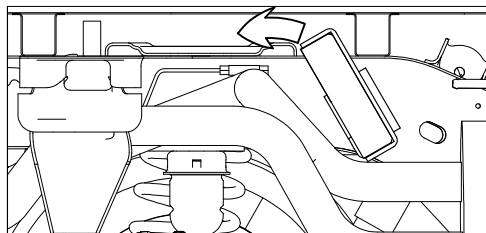

Figure C3. (Cut-away view under bed)
2. **Install the center section.** Once the hitch is clear of exhaust, rotate, and lift it so that the 4" raised area is toward the bottom of the truck bed. Slide the center rearward over the exhaust until the 4" diameter raised portion is in the 4" diameter hole in the truck bed while the 3/8" square hole is centered under the 3/4" diameter hole in the truck bed, see Figures C3 through C5. If available, an overhead lifting device can be attached to the latch pin of the center section at this time to apply upward pressure on the center, holding it in place. Slide the rear cross member forward until it makes contact with the center section. Line the holes in the rear cross member up with the slots in the center. Attach the center to the rear cross member using the two outside slots and middle slot in the center. Thread a 1/2" x 1-1/2" long bolt into each threaded hole in the rear cross member adding a lock washer, and flat washer to each connection. Hand tighten hardware at this time. Do not fully tighten.